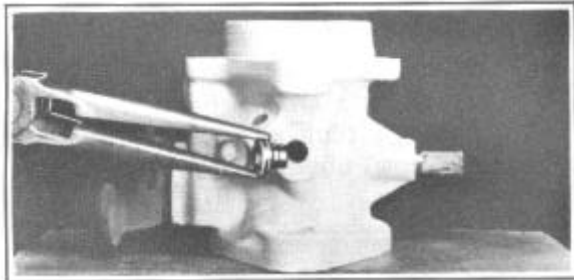

FIGURE 26
7. Install idle port rivet plug, Figure 26.